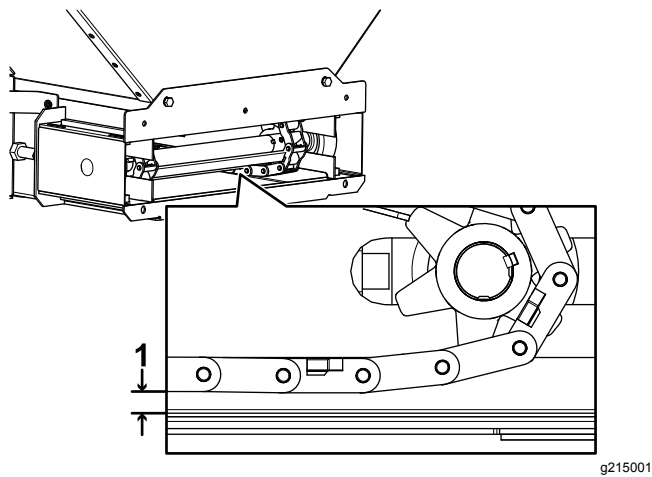

Figure 20
3. Check the gap between the pintle-chain and the cleanout tray (Figure 20).